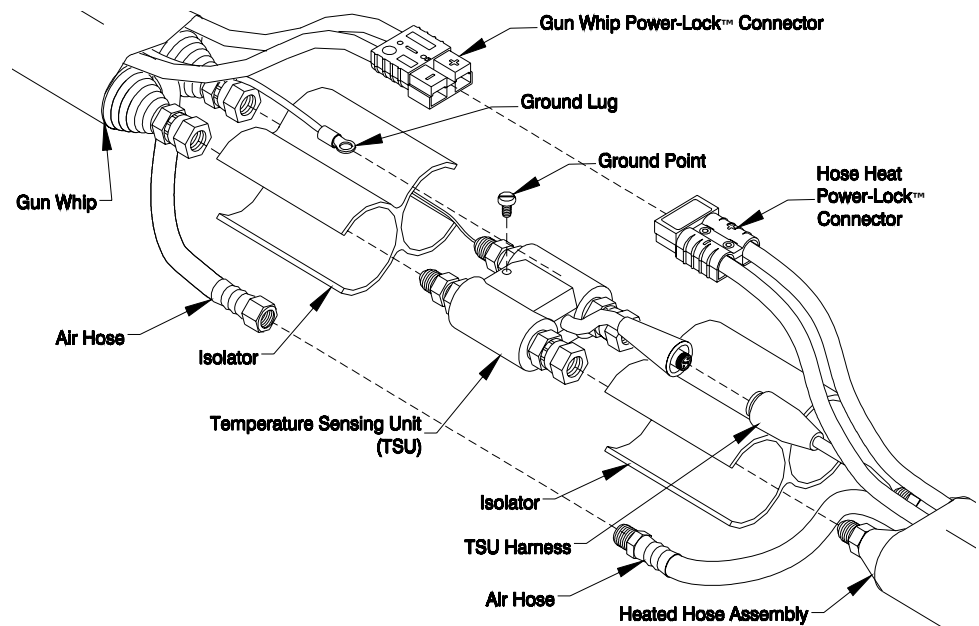

Figure 12. Temperature Sensing Unit (TSU) Connection
9. On Digital Hose Heat units, install the Temperature Sensing Unit (TSU) on the Gun Whip as follows (see Figure 12).